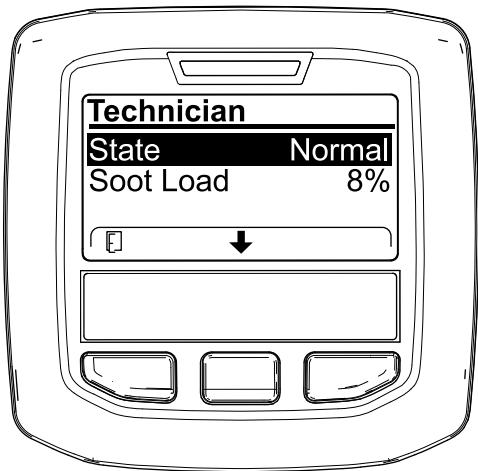

Figure 72
- Use the DPF operation table to understand the current state of DPF operation (Figure 72).